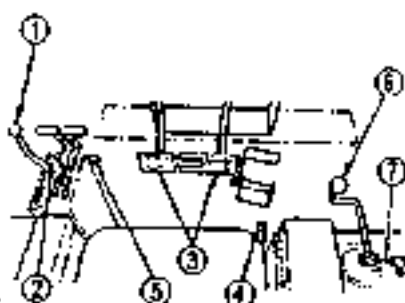

Fig. 4-4
(1) Before stopping the engine, cool the engine gradually by running it at low idling speed for 5 minutes. Then stop the engine.
(2) Turn the key at starting switch to OFF and remove the key when stop the engine. If the engine is stopped abruptly before it cools down, engines lifetime would be greatly shortened. Never stop engine abruptly except in case of emergency.
4.6 Starting the machine (Fig. 4-4)